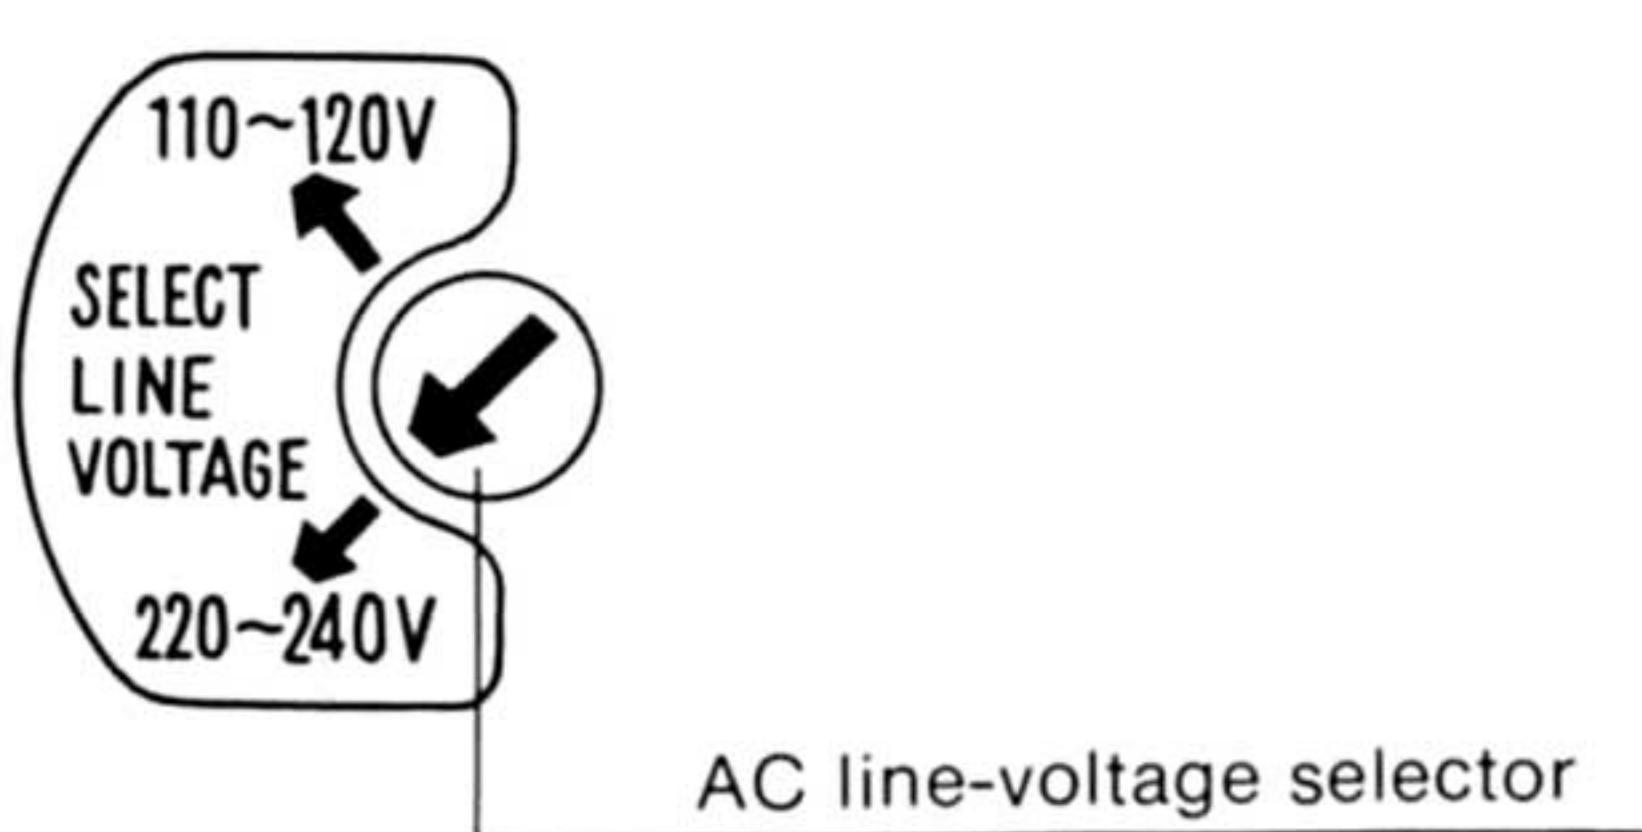

Fig. 2
- Make sure that the AC line-voltage is correct to your local voltage before connecting the plug to the AC socket. If your local voltage is different, please turn the AC line-voltage selector with a screwdriver to your local voltage. (See Fig. 2)